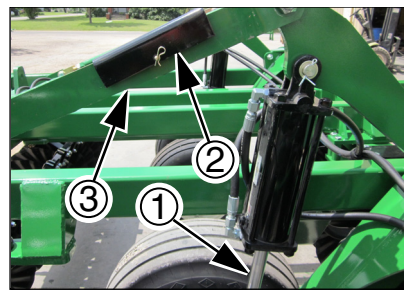
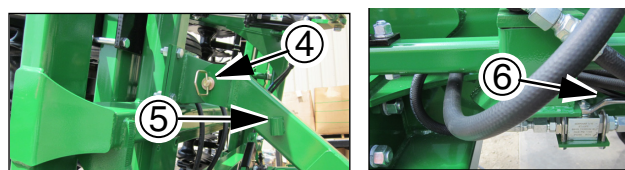

Figure 28
Figure 29
11. Raise the machine fully so the lift cylinders ① no longer rest on the transport lock channels ②, *Refer to Figure 28*. Remove transport lock channels and store on the bars ③ above. Remove the wing transport pins ④ *Refer to Figure 29* and store in the spools ⑤ on the wing rest bar. Open the wing fold valve ⑥ located under the depth stop adjustment (Models 1800-3000) or on the bypass/down pressure valve (Models 3500-4000). You are now ready to unfold unit.